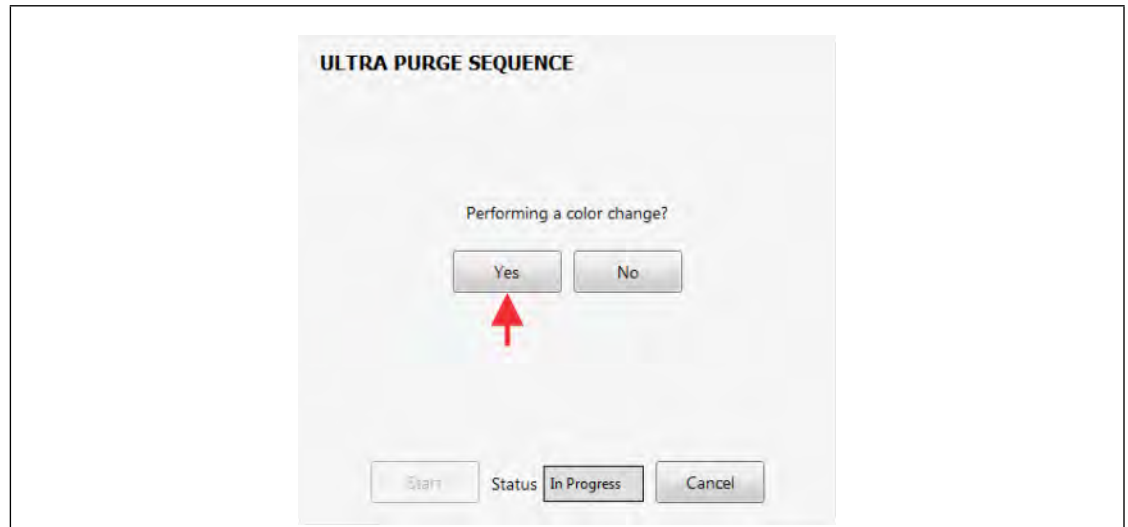

Figure 13-23 Performing a color change? Yes
- When asked if you are performing a color change, touch the **Yes** button (refer to Figure 13-23).